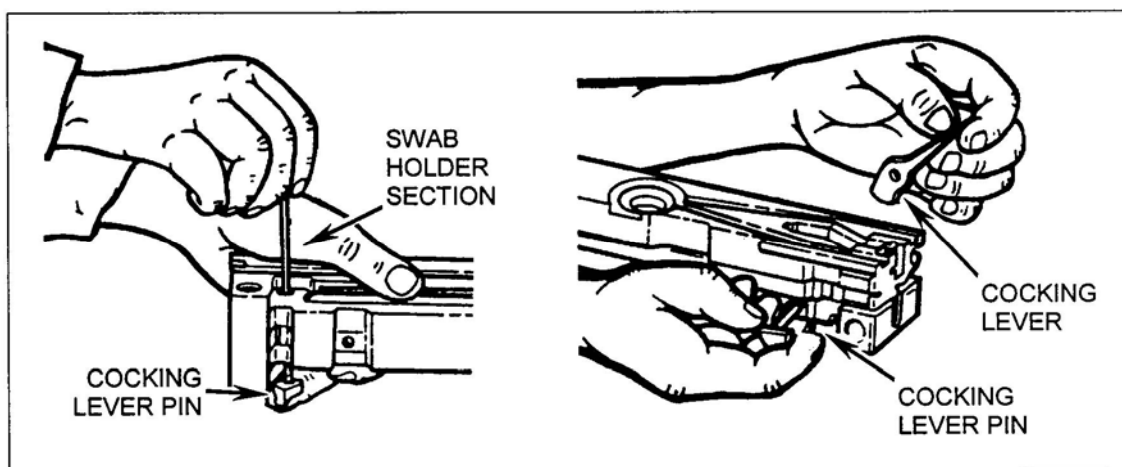

Figure 11. Removal of the cocking lever pin and cocking lever.
- (d) Insert a swab holder section in the hole at the rear of the bolt and push out the cocking lever pin and the cocking lever (Figure 11).